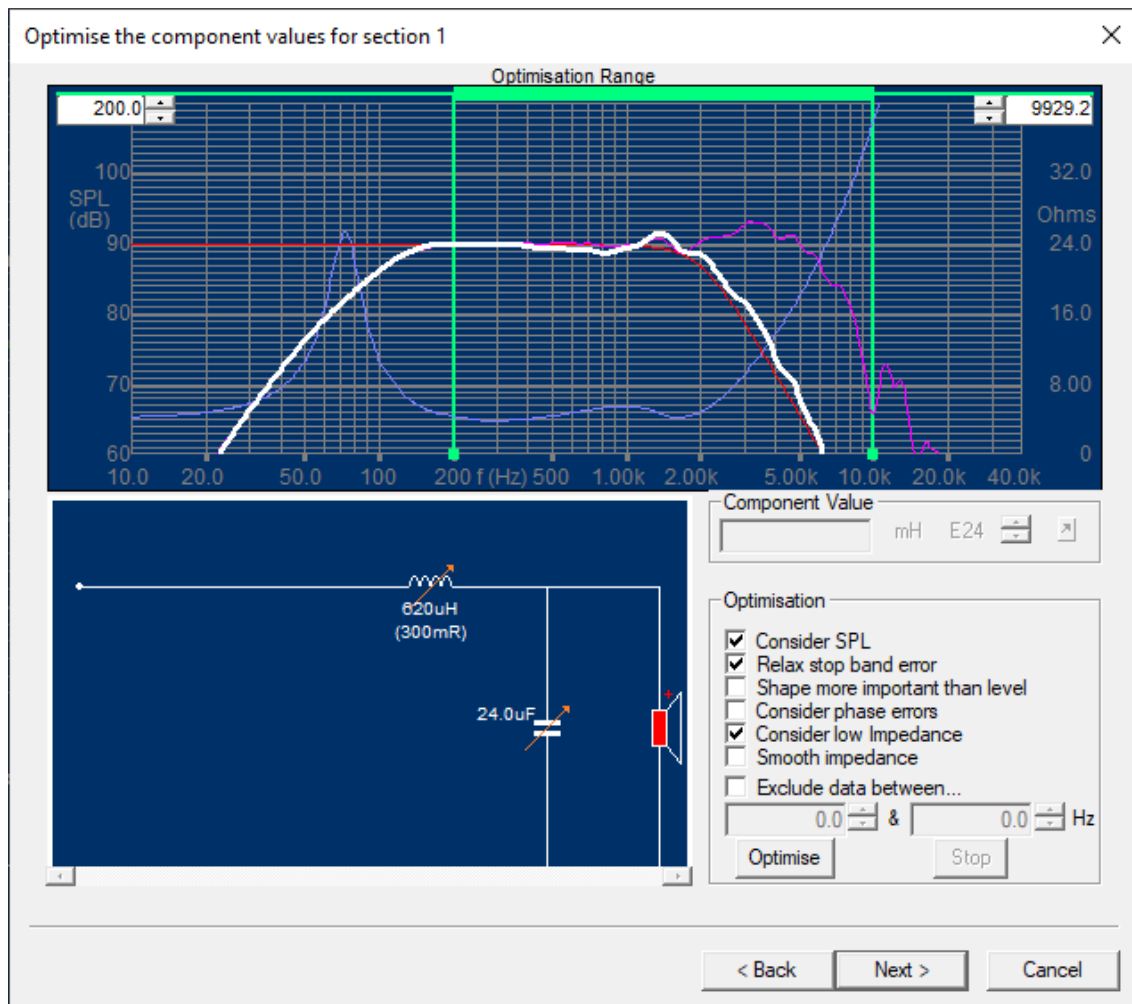

**Figure 4 - Target response**
Now is the time to select the x-over type and Target frequency response. Figure 4 shows the first section - woofer (LF). We may choose Butterworth (Linkwitz-Riley, Chebyshev and Bessel are also possible) type and 1st Order (6dB/Oct) up to 4th Order (24dB/Oct). The black vertical x-line shows the chosen x-over frequency, and we have selected 2nd order (12dB/Oct) Butterworth at 2000Hz.